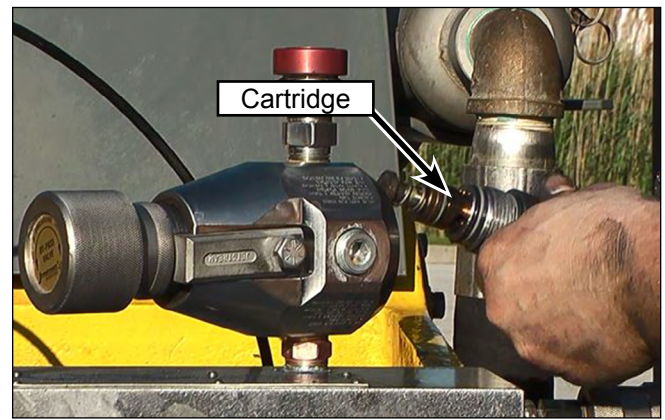

Figure 101: Remove Cartridge.
3. Pull the cartridge (Figure 101) from the housing.